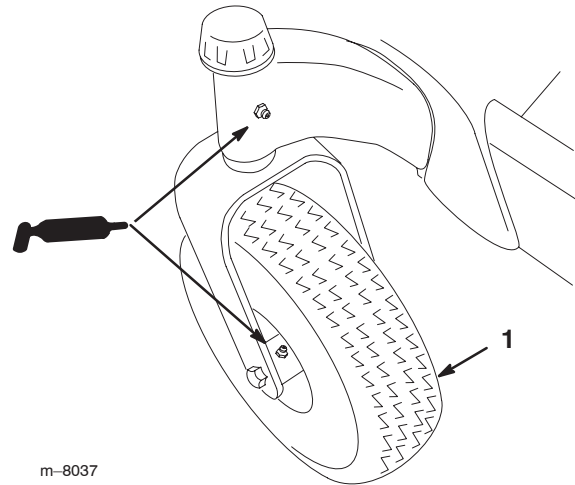

Figure 31
3. Grease the caster pivot and front wheels (Fig. 31).